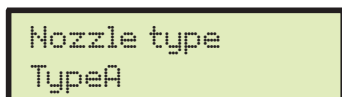

Fig. 61
- Then the computer automatically passes to the selection of the nozzle to be set (Fig. 61).